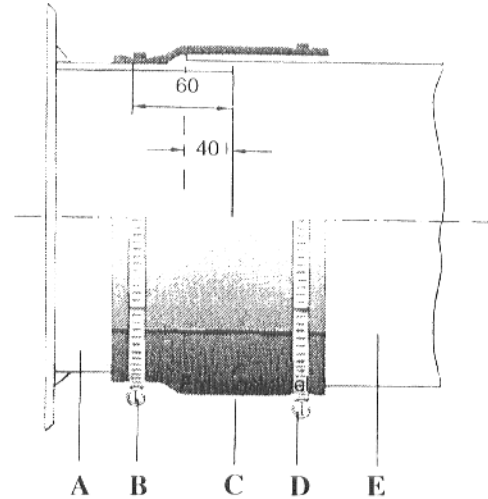

Fig. 5
- Push tightening bands **B** over the sealing collar and tighten (Fig. 5).